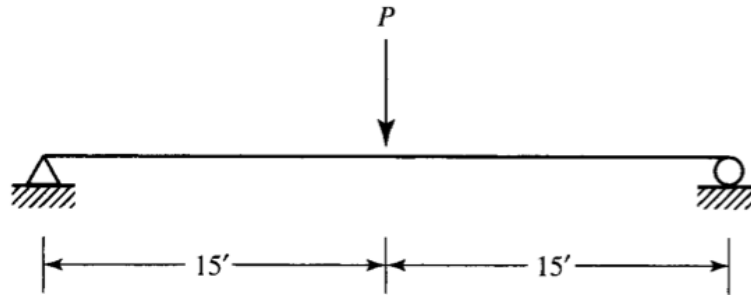

Figure 1
1. The beam in Figure 1 is a W10x77 and has continuous lateral support. The load P is a service live load. A992 steel is used. What is the maximum permissible value of P?